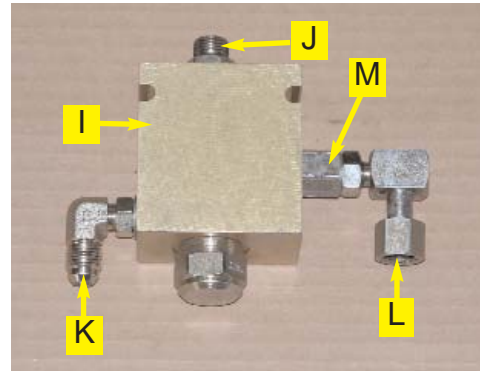

Figure 8a. Assembled load sense shuttle.
a. Assemble the load sense valve (I) with adapter fittings (J), (K), (L) and (M). (Figure 8a.)
Route the valve control cable (W) from the Automated Steering Block under the cab and through the rear window access panel. Secure the valve cable with heavy tie straps (provided). (Figure 8a. and 8b.)